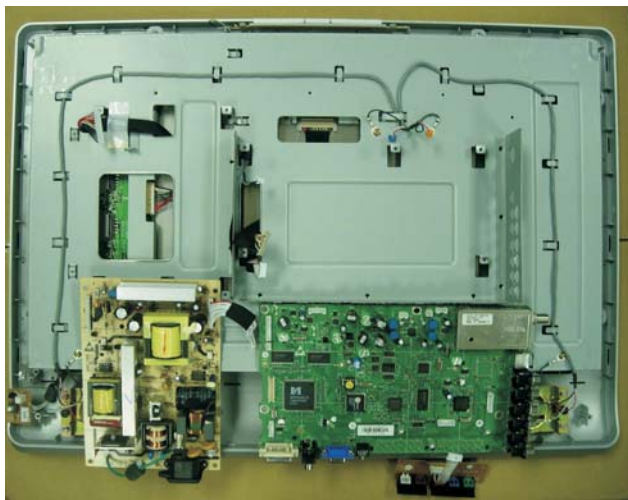

Fig.11
- Remove all PCB as shown in Fig.11